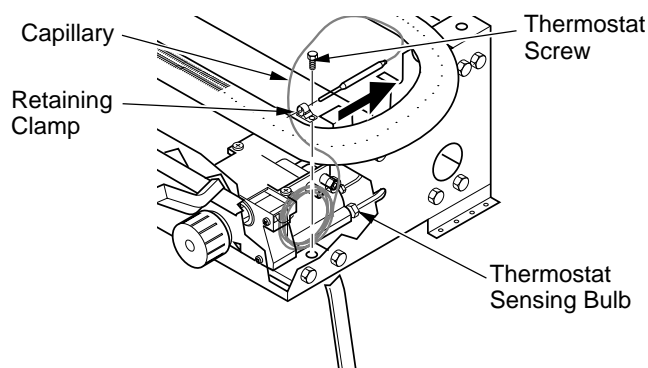

Figure 45 - Removing Thermostat Sensing Bulb
2. With 1/4" hex driver or socket, loosen the thermostat screw. Carefully slide the thermostat sensing bulb out of the retaining clamp (see Figure 45).